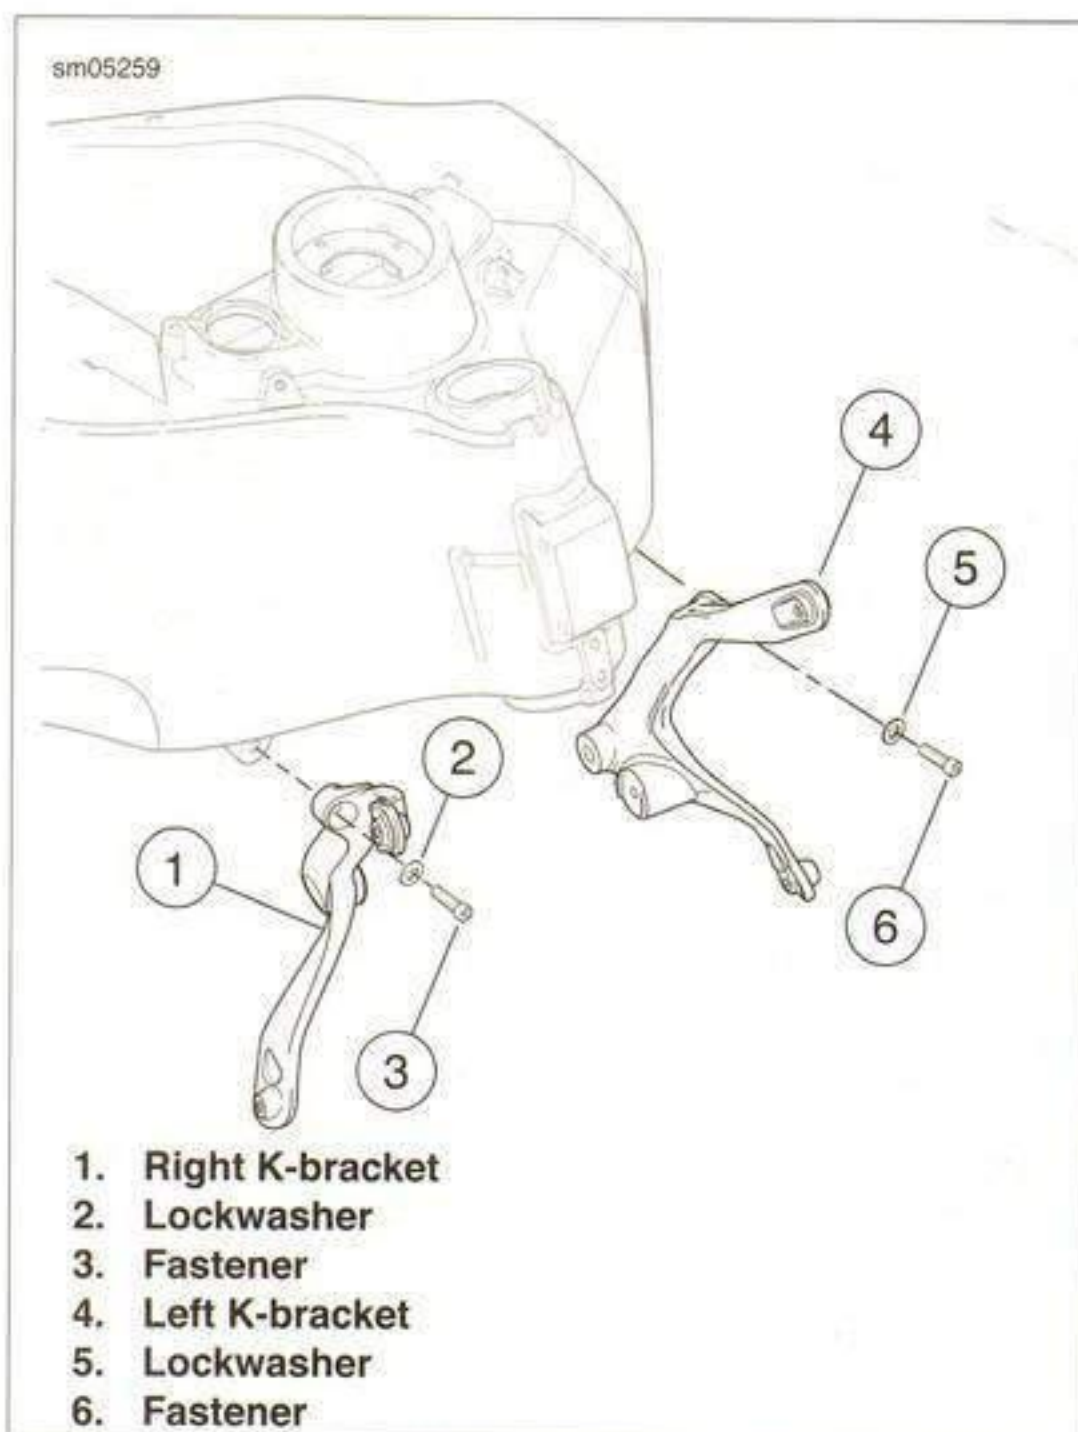

Figure 3-33. Removing the Radiator
- See Figure 3-33. In order to remove the radiator duct fasteners on the left side, it will be necessary to remove the radiator without disconnecting it.